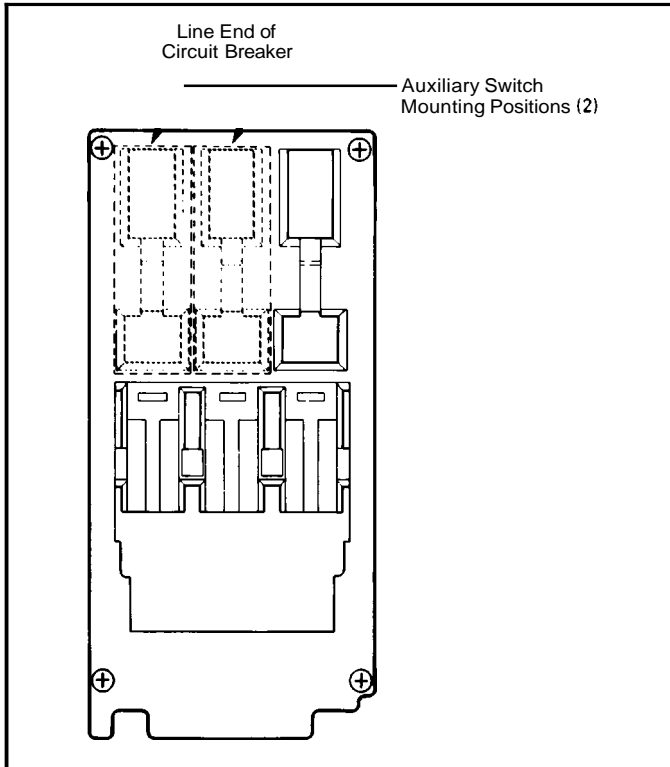

Fig. 2-2 Accessory Location Diagram.
- a. Select position of auxiliary switch on accessory mounting deck (see Fig. 2-2).